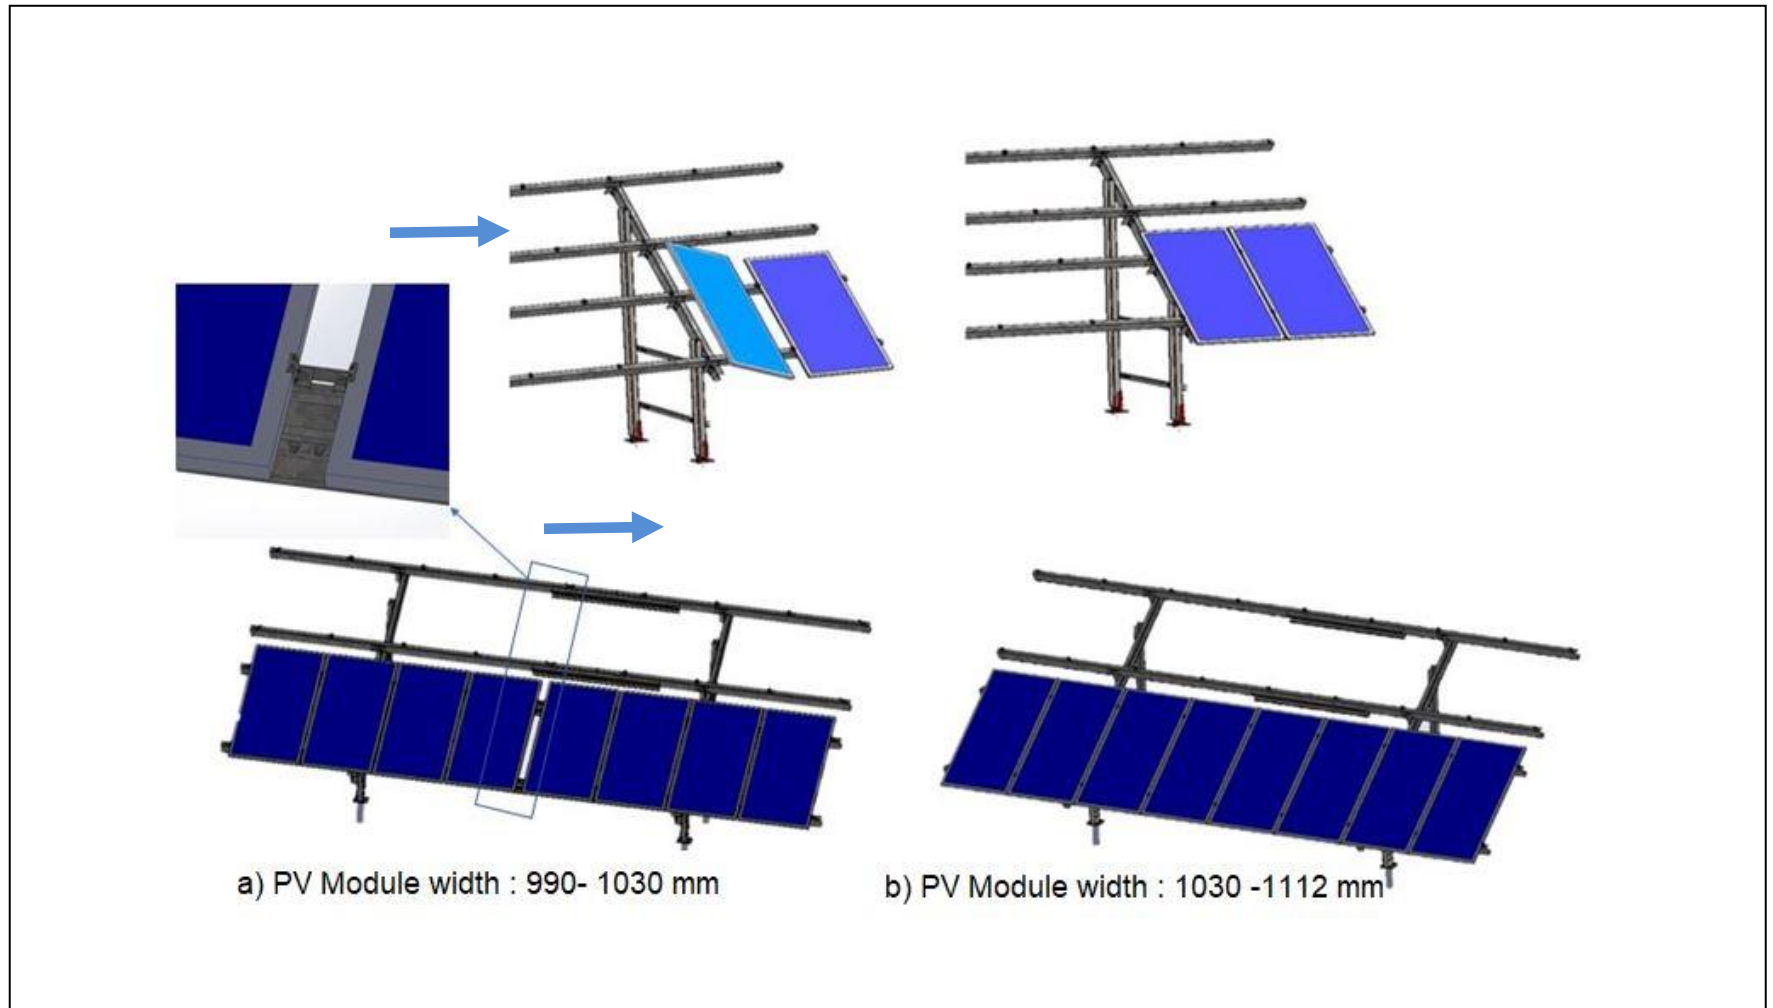

Figure 20: Modules Installation (first row)
Continue with installing the adjacent module, clamp as per direction specified in step one and two above and as shown in figure 20. Ensure minimum three dimples of the bonding washers are in contact with the PV module frame.
*** Check the IFC drawings for the module spacing based on the PV module width. If the PV module range is between 990 mm to 1030 mm, then after the fourth module in the row installed end clamps should be used. If the PV module range is between 1031 mm to 1112 mm, then inter module clamps are to be used between modules. See figure 20 below.**